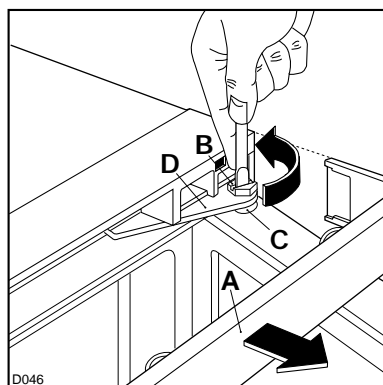

Fig. 6
2. Unscrew the pin (B) and washer (C) from the hinge (D) (Fig. 6).